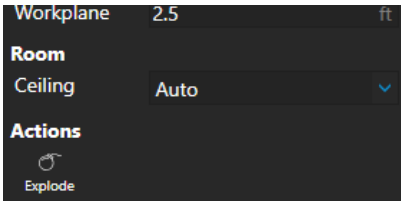

Figure 12. Explode Arrangements
- For Arrangements, to make individual changes to luminaires, they must first be Exploded. Select an arrangement and choose the Explode option found in the properties tab. (Figure 12)